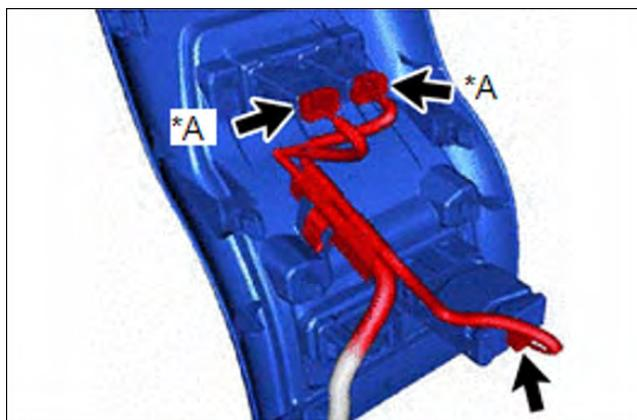

Figure 20
- (b) With seat heater system, remove the connectors, as shown in Figure 20.